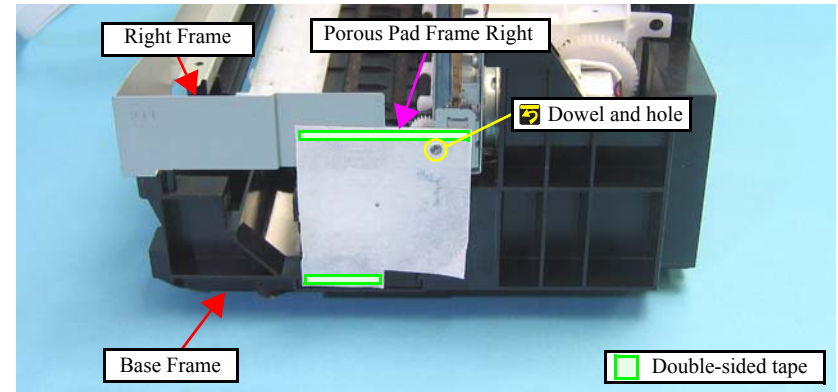

Figure 4-54. Removing the Front Frame/Right Frame (2)
- Before securing the Porous Pad Frame Right, align the hole of the Porous Pad Frame Right with the dowel of the Right Frame as shown in Figure 4-54.